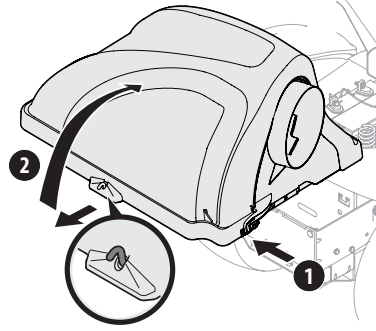

Figure 22
2. Open the bagger cover by pushing in on the rear, right-side tab with your right hand, as seen in (1) of Figure 22, and lifting the cover with your left hand in the center rear of the bagger cover (2). Do not remove the hose assembly from the tractor.